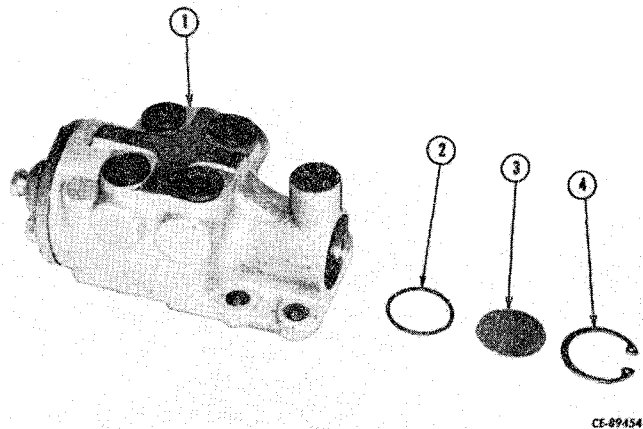

Figure 8-12
Using a snap ring pliers, remove snap ring (4, Fig. 8-12) end plate (3), and "O" ring (2) from control valve (1).